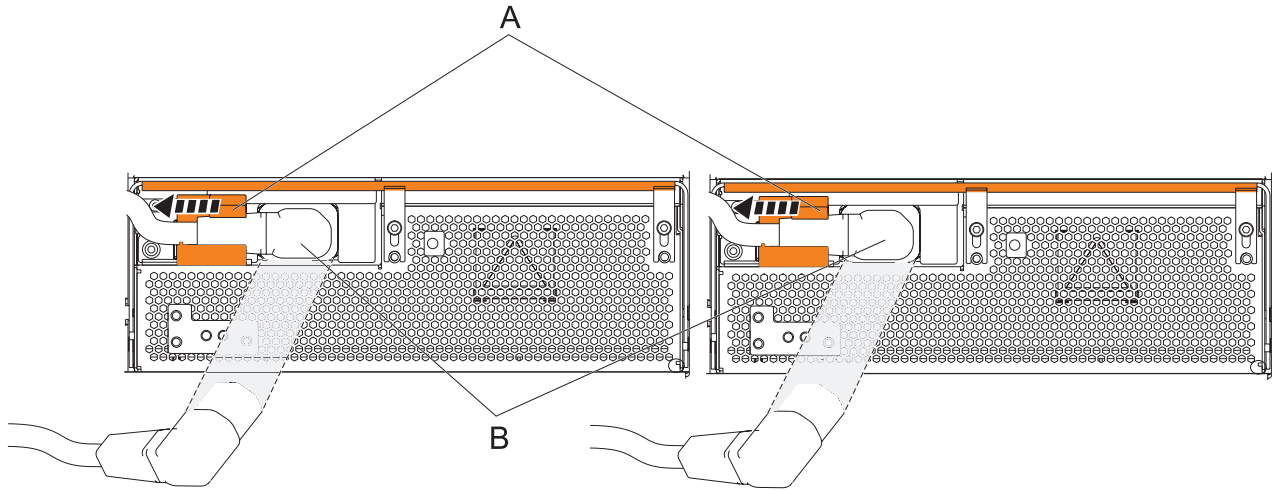

Figure 54. Disconnecting the OCA power cords
- a. Slide the power cord holders (**A**) to the left, located on the front of both the OCAs. See Figure 54 on page 71.